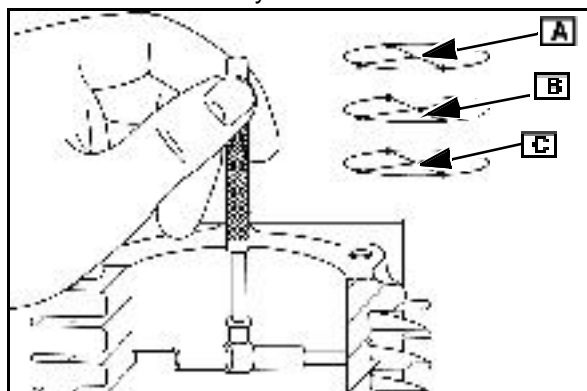

Fig. 45
Measure the cylinder bore twice at right angles at each of the positions shown in Fig. 45.
- First two measurements, at position (A) at the top of the cylinder bore.
- Second two measurements, at position (B) in the middle of the cylinder bore.
- Third two measurements, at position (C) Fig. 45) at the bottom of the piston ring travel in the cylinder bore.